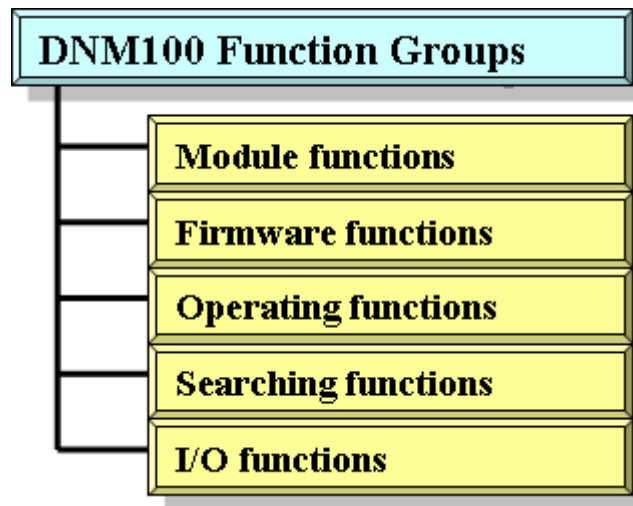

Figure 4.1 Five Function Groups
All the functions of the PISO-DNM100(U) can be separated into five groups. The idea is shown Figure 4.1. There is more detail description in CH 4.1.